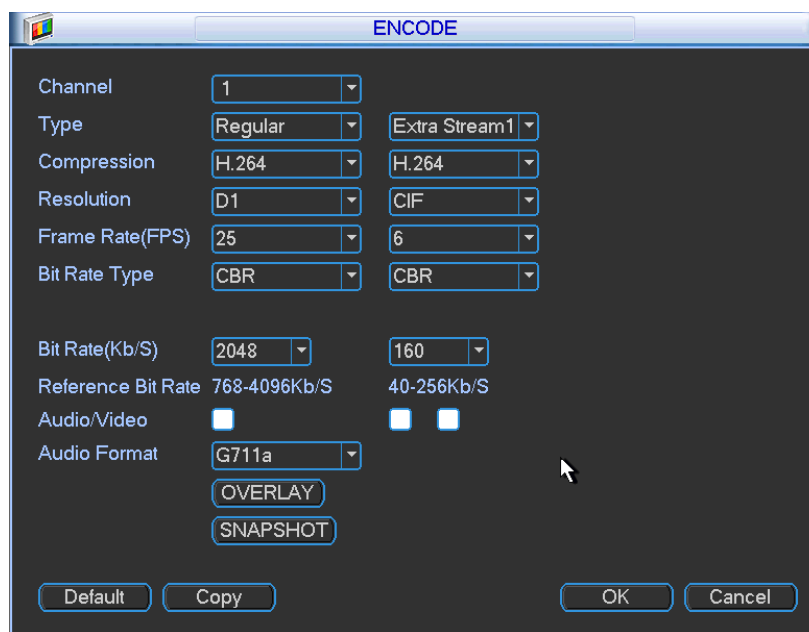
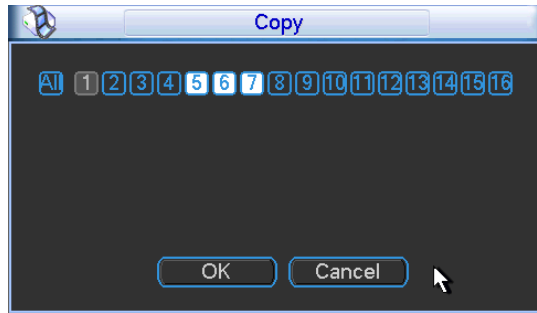
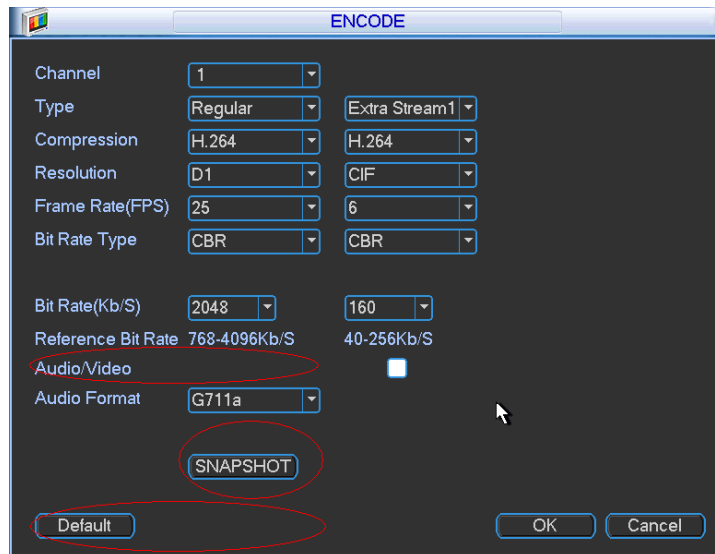

Figure 5-8
Figure 5-10
Figure 5-11
Encode setting includes the following items. See Figure 5-8.
- # Copy: After you complete the setup, you can click Copy button to copy current setup to other channel(s). You can see an interface is shown as in Figure 5-10. You can see current channel number is grey. Please check the number to select the channel or you can check the box ALL. Please click the OK button in Figure 5-10 and Figure 5-8 respectively to complete the setup. Please note, once you check the All box, you set same encode setup for all channels. Audio/video enable box, overlay button and the copy button is shield. See Figure 5-11.